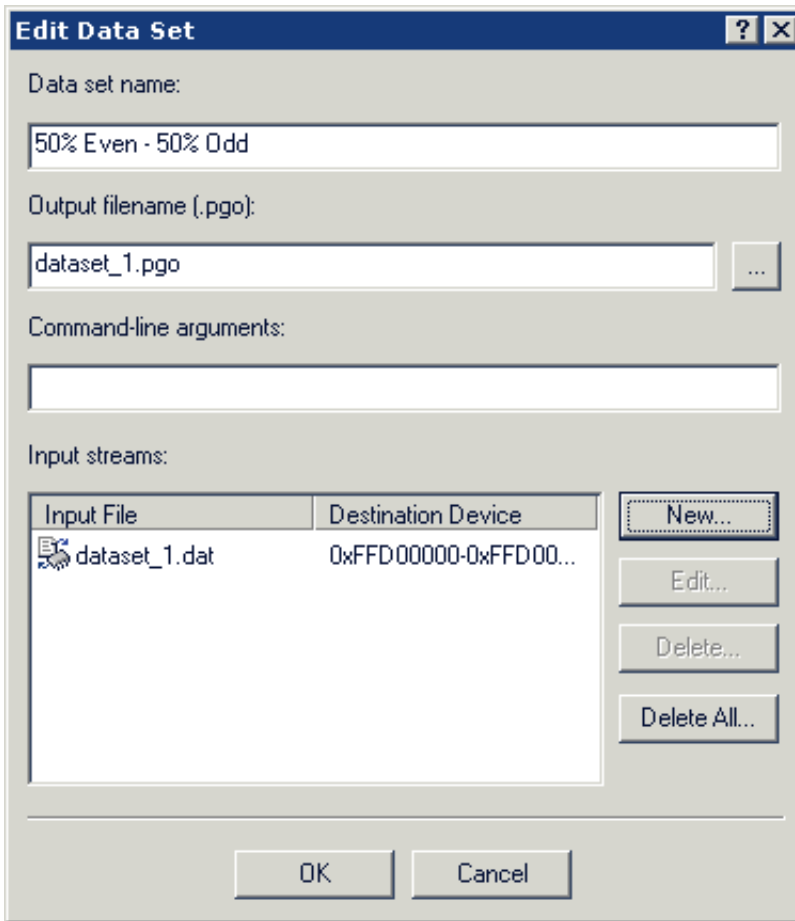

Figure 3-6. A Configured Data Set
4. Click **OK** to return to the **Edit Data Set** dialog box. The dialog box with your configured data set should match Figure 3-6.